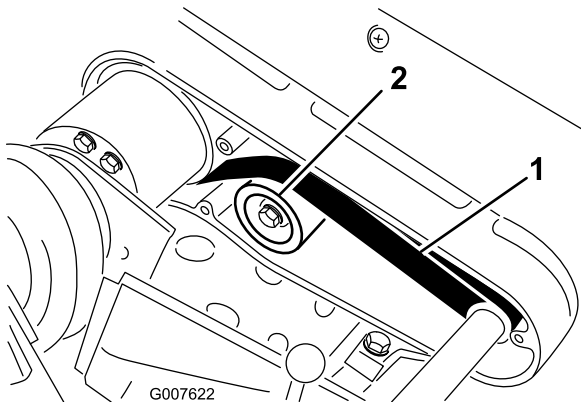

Figure 39
- Check the tension by pressing the belt at mid span of the pulleys (Figure 39) with 22–26 N (5 to 6 lb) of force. The belt should deflect 6 mm (1/4 inch).
- Loosen the idler pulley mounting nut and pivot the idler pulley clockwise against the backside of the belt until the desired belt tension is attained (Figure 39).